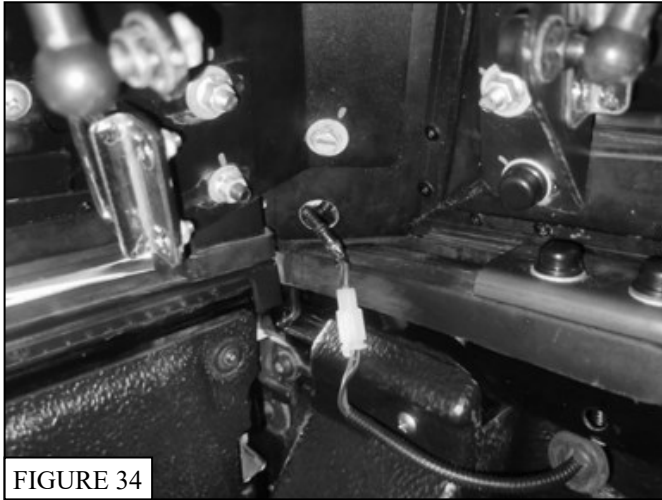
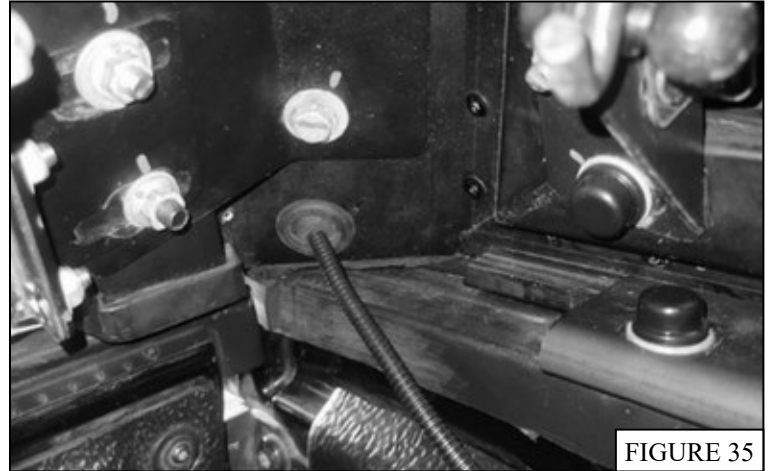

FIGURE 34
FIGURE 35
31. Plug the provided Interior Light Harness (**Item 11**) at the connector coming from the rear driver side of the topper (**Fig 34**). Tuck the harness into the topper using the rubber grommet (**Fig 35**). The other end of the harness will need to go to the vehicle's battery. Route the harness underneath the vehicle, make sure to avoid any moving parts.